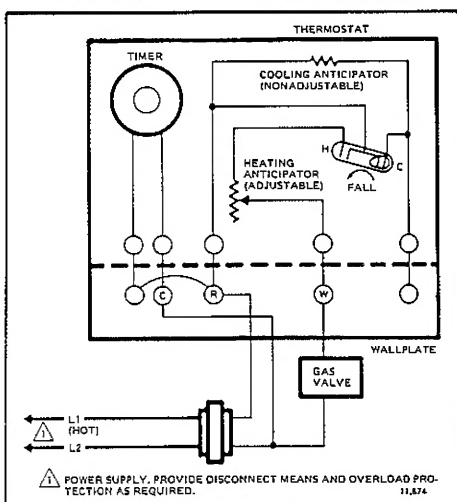

Fig. 11—Hookup showing a typical 24 V, gas heating control system.
- ☐ Connect wires to R, W, and C terminals. Firmly tighten screws. The timer is powered by the system's low voltage transformer. NOTE: An unmarked fourth terminal is provided for 3-wire (series 20) primary controls (Fig. 11).